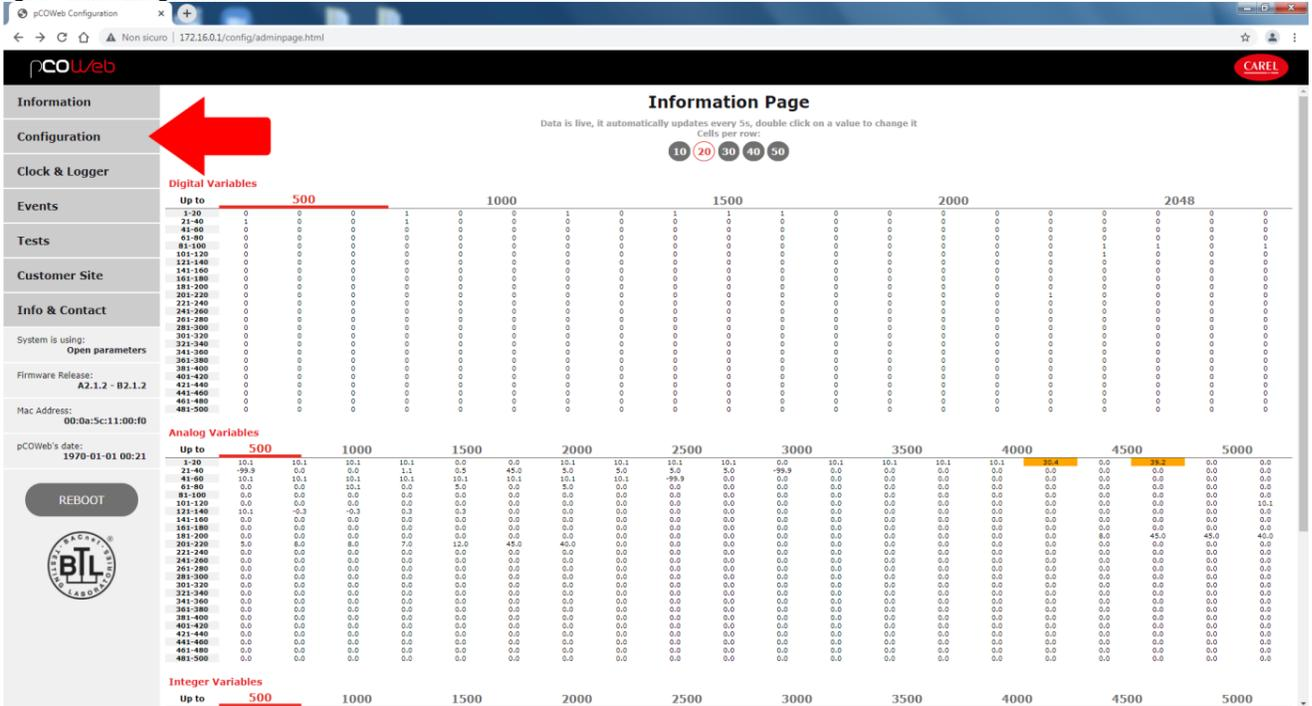

Fig. 2 - Selection of the Configuration page
7. Select the "Configuration" tab (Fig. 2);